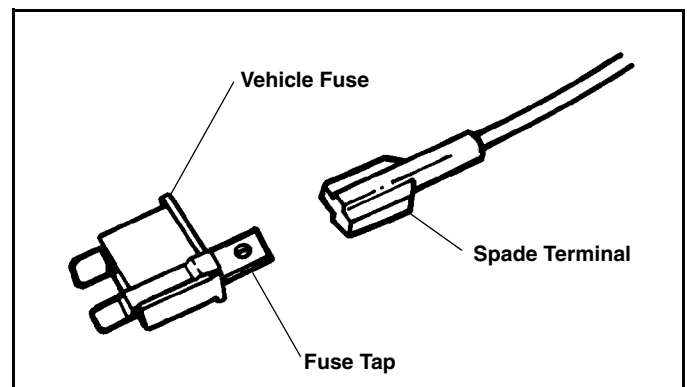

Figure 4-6
15. Using a test probe, determine the fused "Dead/OFF" side of the fuse and attach the A.T.O. fuse tap to that side of the fuse. (See Figure 4-6)